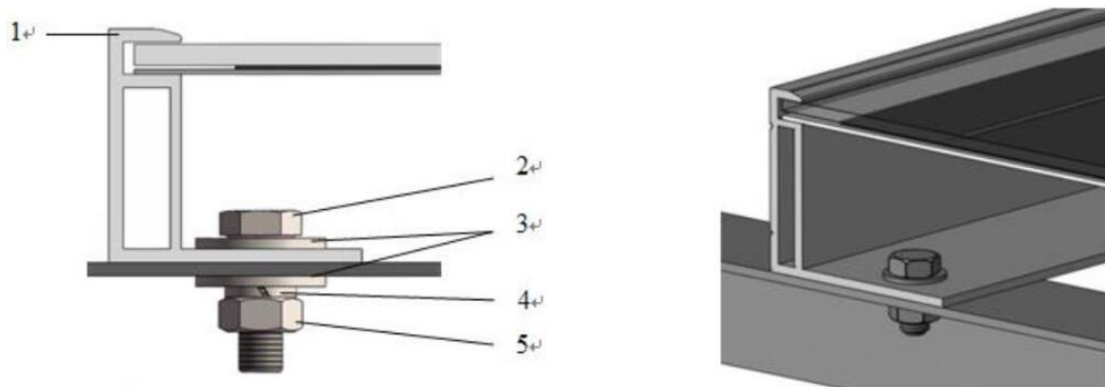

Figure 1. PV module installed with Bolt fitting method
- 2) Secure the module in each fixing location with an M8 bolt and a flat washer, spring washer and nut as shown in Figure 1 and tighten to a torque of 16~20 N.m (140-180 lbf.in.).